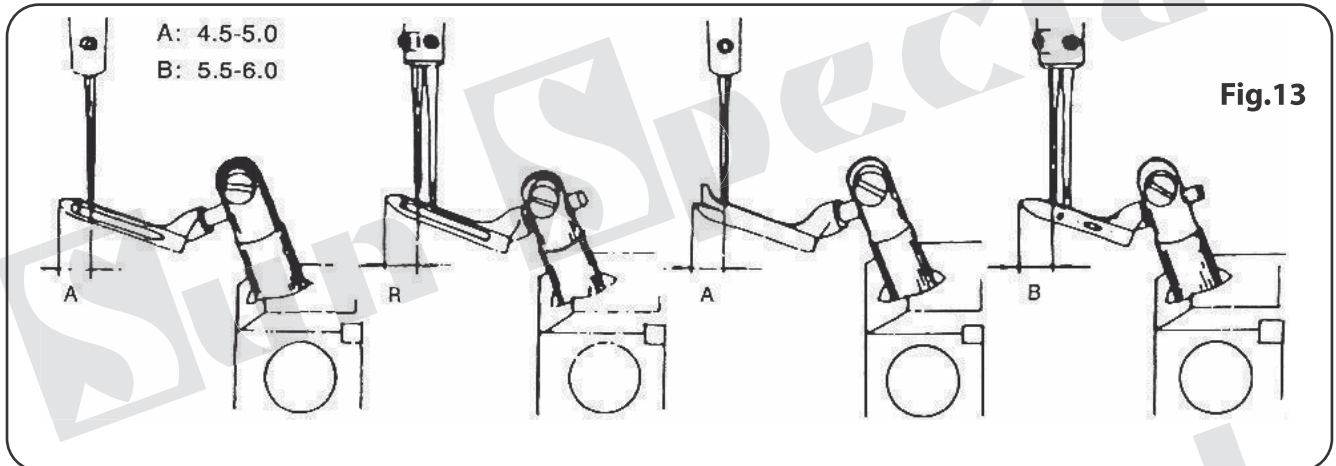

Fig.13
2. Looper superior e agulha Fig.13